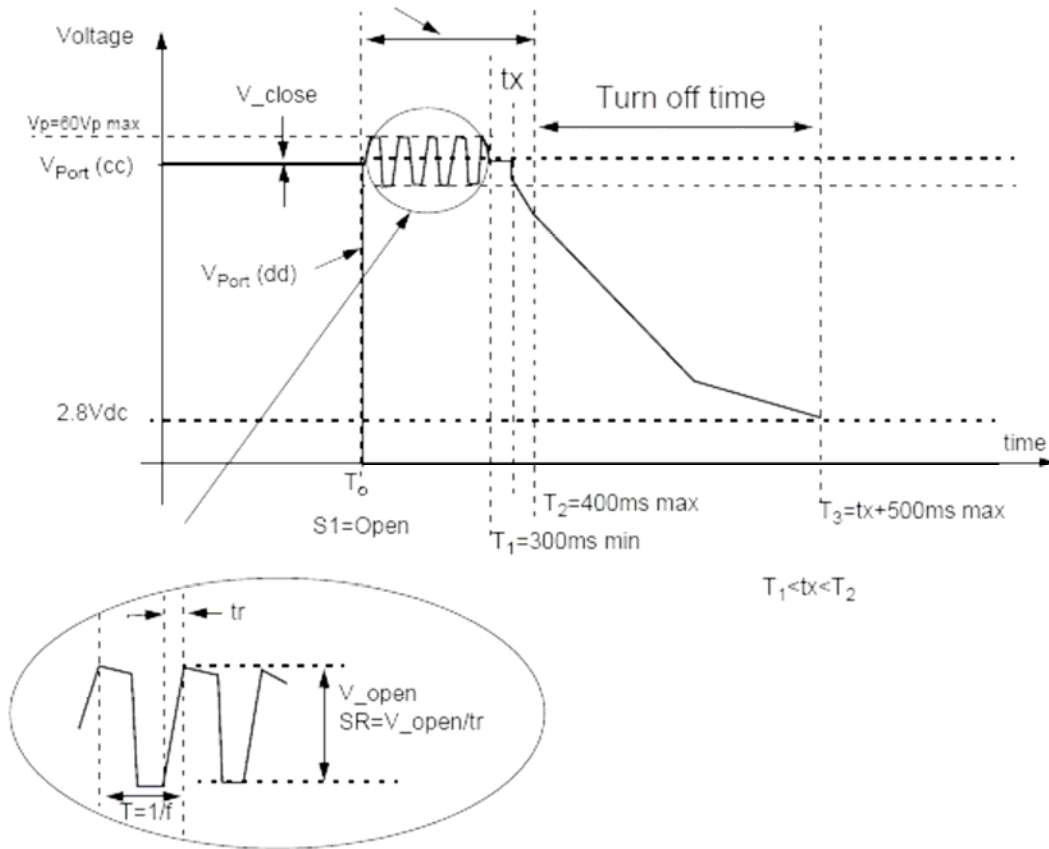

Figure 33C.15
**Discussion:** Once power has been applied to the link section, the PSE must monitor the link segment for the PD’s Maintain Power Signature, and remove power if it detects that the PD has been disconnected. The PSE may monitor the AC MPS component, the DC MPS component, or both signature components. This test has been designed to verify that a PSE that monitors the AC MPS component meets the AC signal parameters as specified in Item 1 of Table 33-6, which has been printed here for convenience. These parameters can be measured as depicted in Figure 33C.15, which is also printed here for convenience.